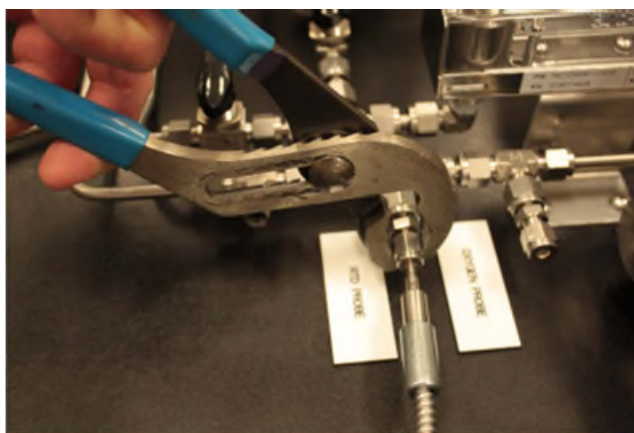

Figure 12. RTD probe installation
2. Tighten the Swagelok nut with a 7/16 in. open-ended wrench or adjustable wrench. Refer to Figure 12.